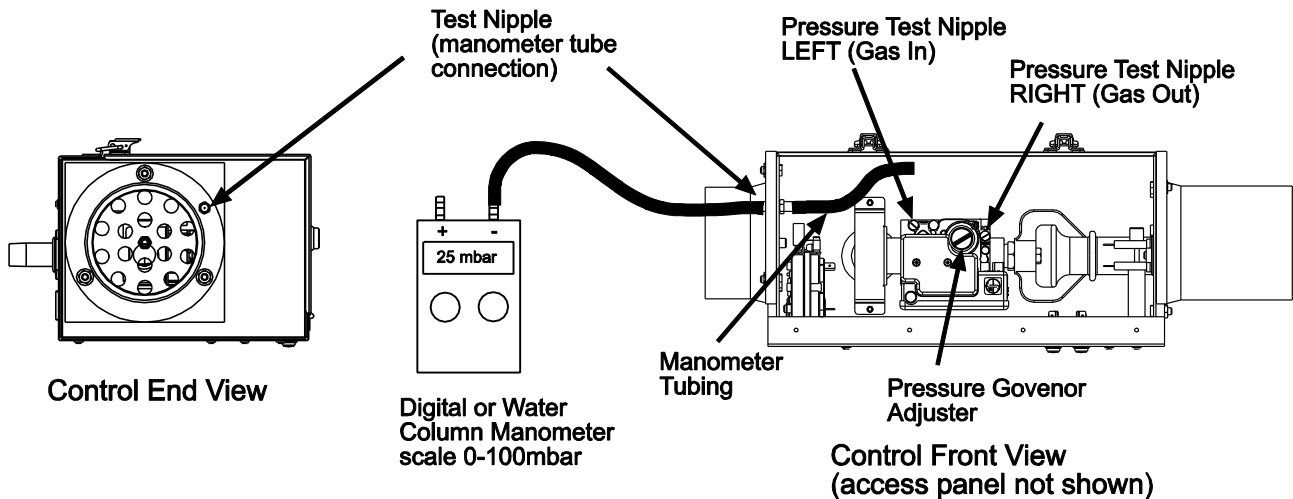

Fig. 37
- Connect a manometer to the test nipple protruding from the rear panel of the Control Box (adjacent to the Air Inlet Adaptor). See Fig. 37. Open the Control Box door after releasing the two toggle latches.